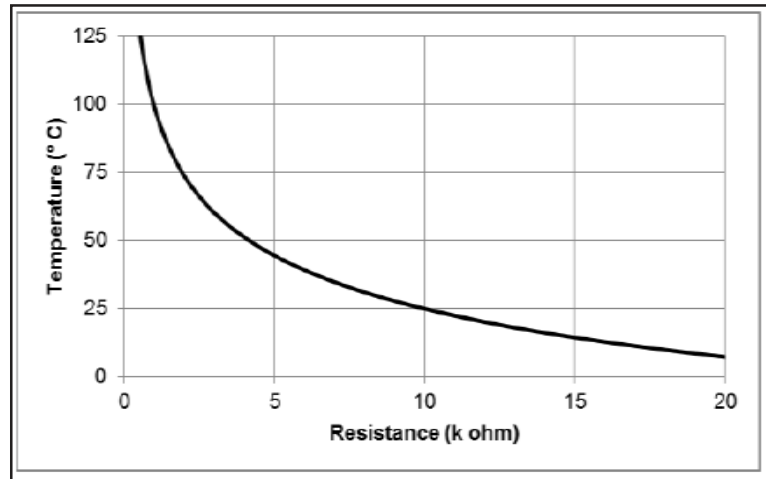

Figure 13: Coreboard temperature as a function of thermistor resistance
5. Coreboard temperature of the Big Chip LEDs is monitored using a Murata Manufacturing Co. thermistor (part number NCP15XH103J03RC). When using the short 8-pin cable, the on board thermistor is connected to test points THRM1 and THRM2 on the driver board. Signal Pins 7 and 8 are also thermistor test points and are equivalent to THRM2 and THRM1. Figure 13 shows the relationship between the thermistor (coreboard) temperature and the resistance between the thermistor test points. Note that there is a temperature rise from the thermistor to the LED junction; for guidance on estimating the LED junction temperature (Tj), refer to appropriate product datasheets. To monitor coreboard temperature when using the two pin driver board to LED cable, the thermistor cable (Fig 7) must be connected to the on board thermistor. The resistance across the cable's leads can then be used to monitor temperature.